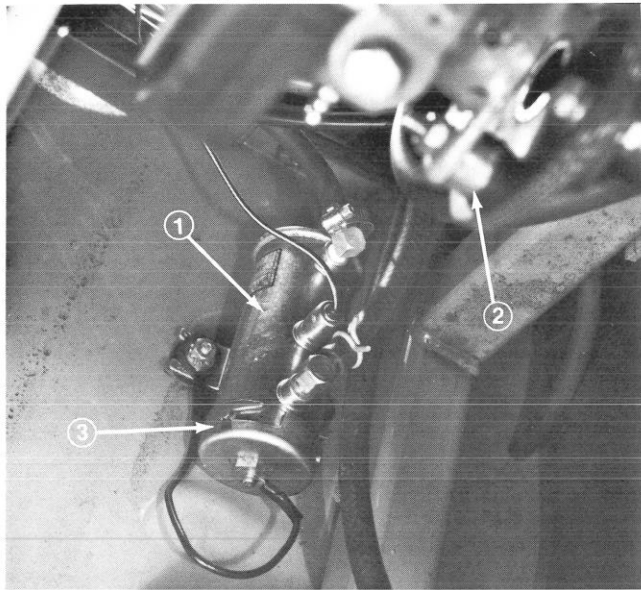

Figure 49
1. Fuel pump is located on inner frame bulkhead to left of drive coupling assembly (Fig. 49).
3. Place a drain pan under fuel pump and remove cover from fuel pump with 17 mm wrench (Fig. 49). Take care not to damage wire while removing cover.
6. Clean magnet of any residue (Fig. 50), insert filter into body and install cover (Fig. 49).